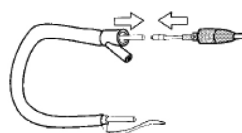

Fig. 4-6A
1. Insert the snap end of the Tension Guide cable securely into the feeder tube at the "Y" connect end of the loop cover. (See Figure 4-6A)